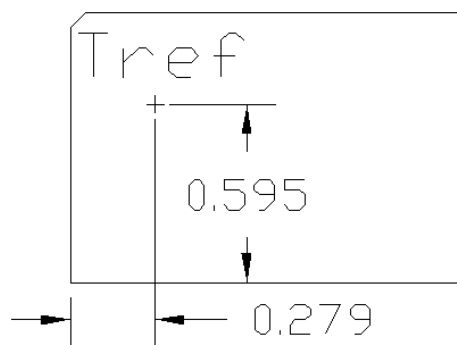

Figure 13. T_{ref} Temperature Measurement Location for Module with Heatplate.
To provide protection under certain fault conditions, the unit is equipped with a thermal shutdown circuit. The unit will shutdown if the thermal reference point T_{ref} (Figure 13), exceeds 121°C (typical), but the thermal shutdown is not intended as a guarantee that the unit will survive temperatures beyond its rating. The module can be restarted by cycling the dc input power for at least one second or by toggling the remote on/off signal for at least one second. If the auto-restart option (4) is ordered, the module will automatically restart upon cool-down to a safe temperature.
The thermal reference point, T_{ref} used in the specifications is shown in Figure 13. For reliable operation this temperature should not exceed 103°C.